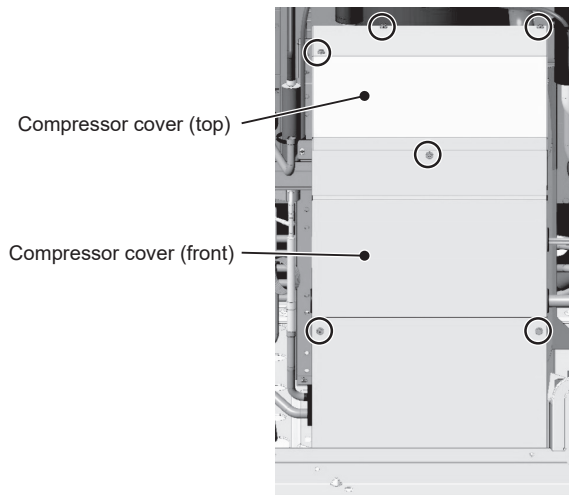

Figure 2
- (1) Remove the front heat exchanger. Refer to "8-12-8 Maintenance Procedures for the Heat Exchanger" for details.
- (2) Remove the top and the front compressor covers. (6 screws, Figure 2)